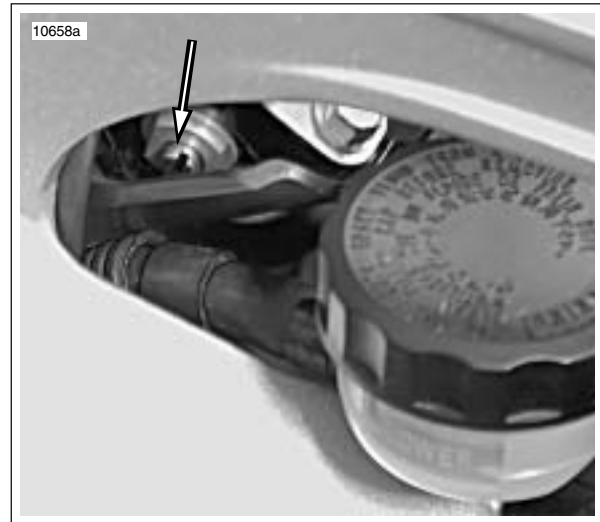

Figure 1-38. Rear Shock Compression Adjuster
1. See Figure 1-38. Using a screwdriver, turn the slotted dial clockwise until it stops. This is the maximum compression damping setting.